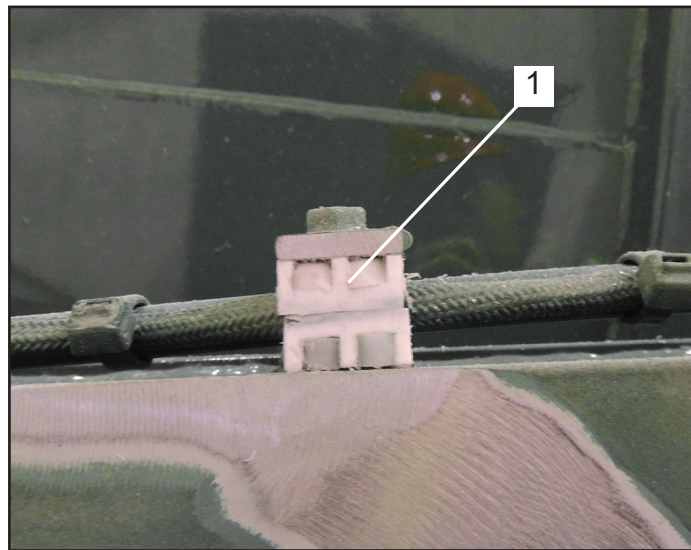

Figure 3
9. You may also have to grind just the face of a cable bracket if it interferes with placement of the Arm Radius Doubler or Arm Base Weldment (Figure 3, Item 1).